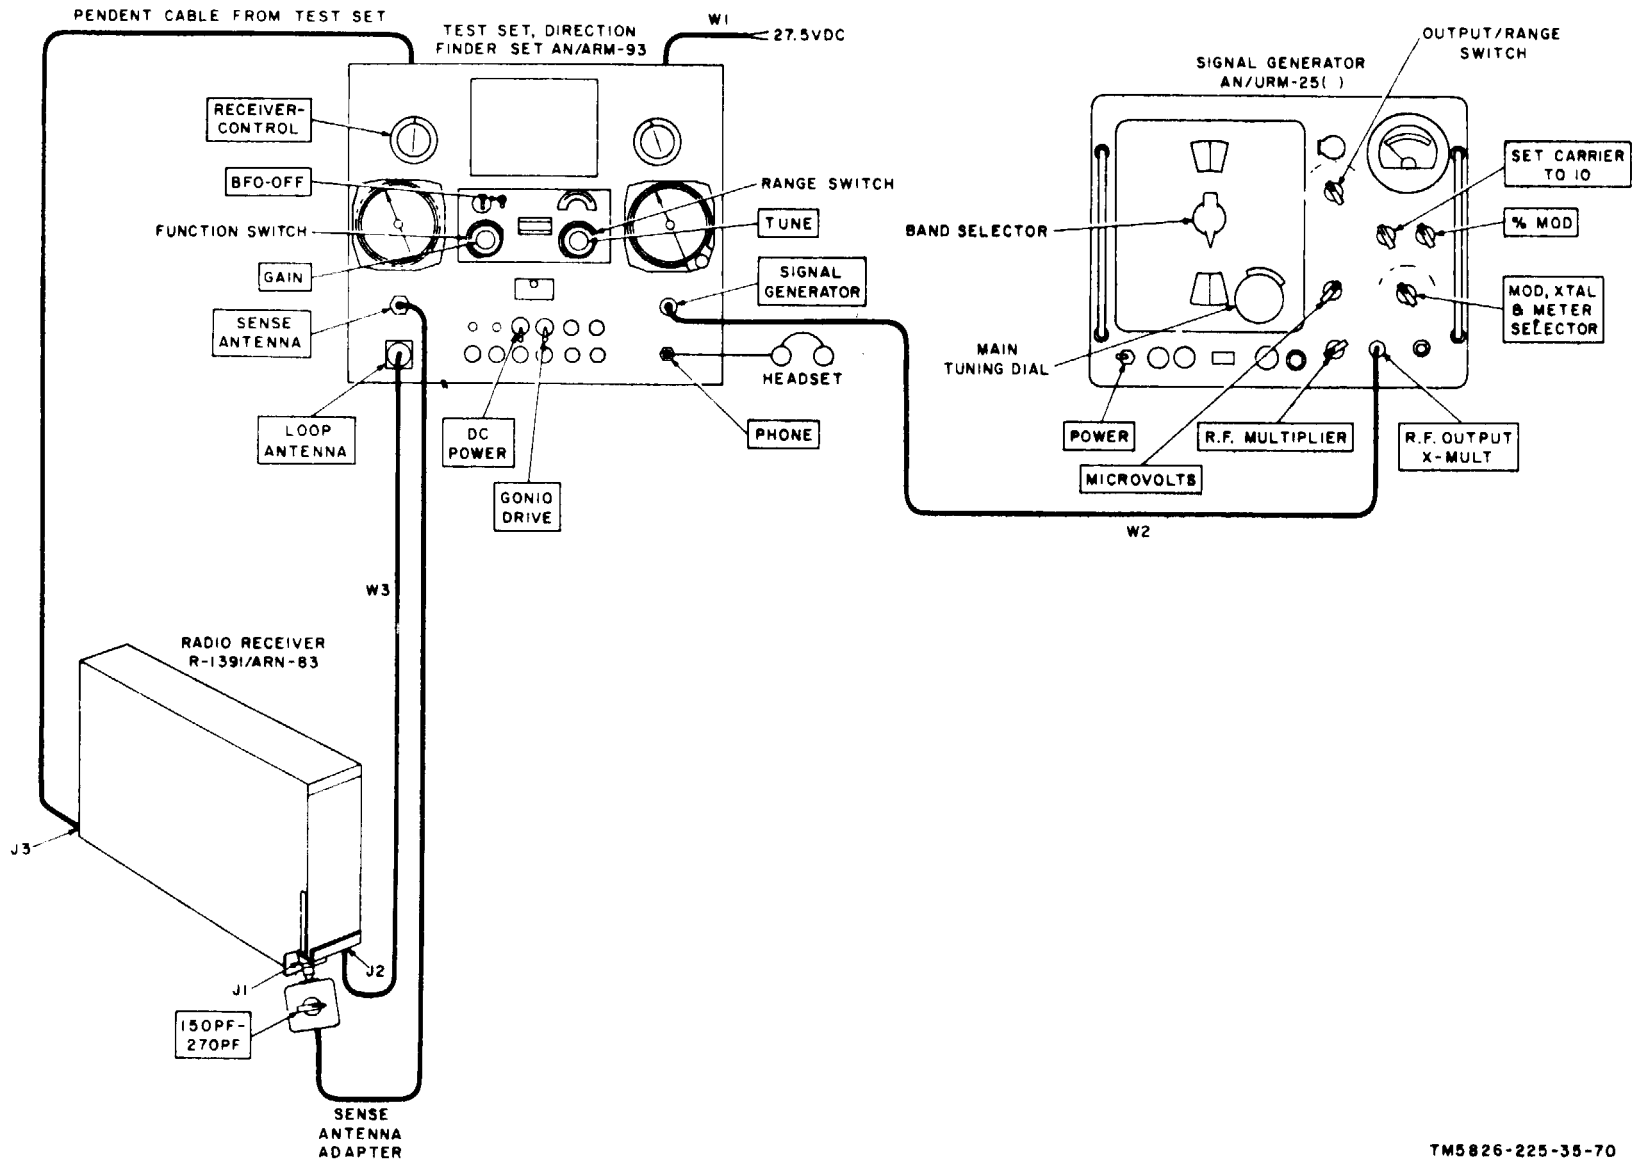

Figure 4-7. Receiver muting test.
- (1) Test Set, Direction Finder Set AN/ARM-93.
- (2) Signal Generator AN/URM-25().
- (3) Headset.
b. Test Connections and Conditions. Connect the test equipment as shown in figure 4-7. Turn on the equipment and allow a 5-minute warmup before proceeding.